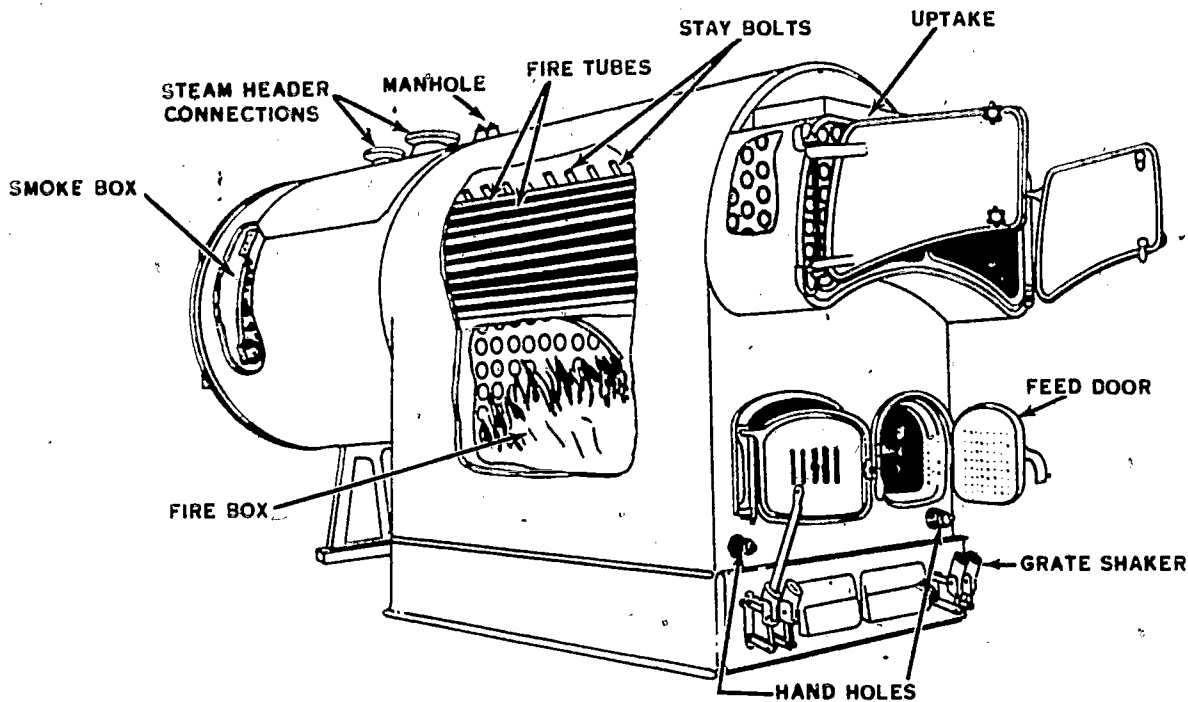

Figure 31. A typical locomotive boiler.
17. The locomotive boiler, shown in figure 31, has a steel firebox consisting of inner and outer sheets that are held together with staybolts. The bolts consist of threaded rods that are screwed through threaded holes in the boiler metal sheets and hold them rigid. All four sides of the firebox are surrounded by water. The top metal sheet of the firebox is called the *crown sheet*, and it is supported away from the shell by crown staybolts and crown bolts. These crown sheets should be inspected periodically for leaks, deterioration, and leaking crown staybolts or crown bolts. This type of boiler is very similar in construction to the boiler used on locomotives.
18. The locomotive boiler has water legs that extend down the sides of the firebox. They also serve as collecting places for the sediment that precipitates out of the boiler water. The water legs of the locomotive boiler are connected in the rear to the blowdown lines so that the sediment can be removed from the boiler. This prevents damage to the boiler from hot spots created by the sediment keeping the water away from the heating surfaces of the water legs of the boiler. You will notice that the boiler shown in figure 31 has handholes for accessibility in cleaning the